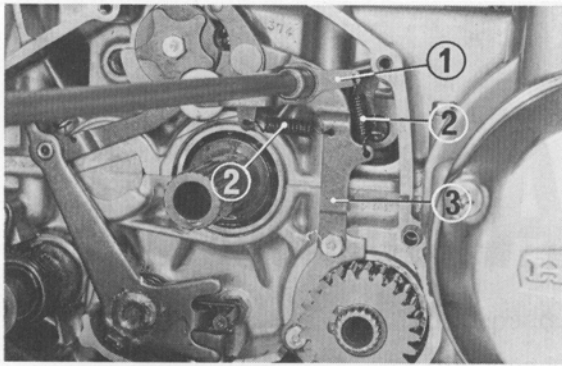

Fig. 1-3 ① Shift drum stop
1. As shown in Fig. 1-3, attach one of the shift drum stop springs to the shift drum stop and shift drum neutral stop, then attach the other shift drum stop spring to the arm and body of the shift drum stop. After that, secure the shift drum stop and shift drum neutral stop using the neutral stop bolt and shift drum stop bolt and collar.